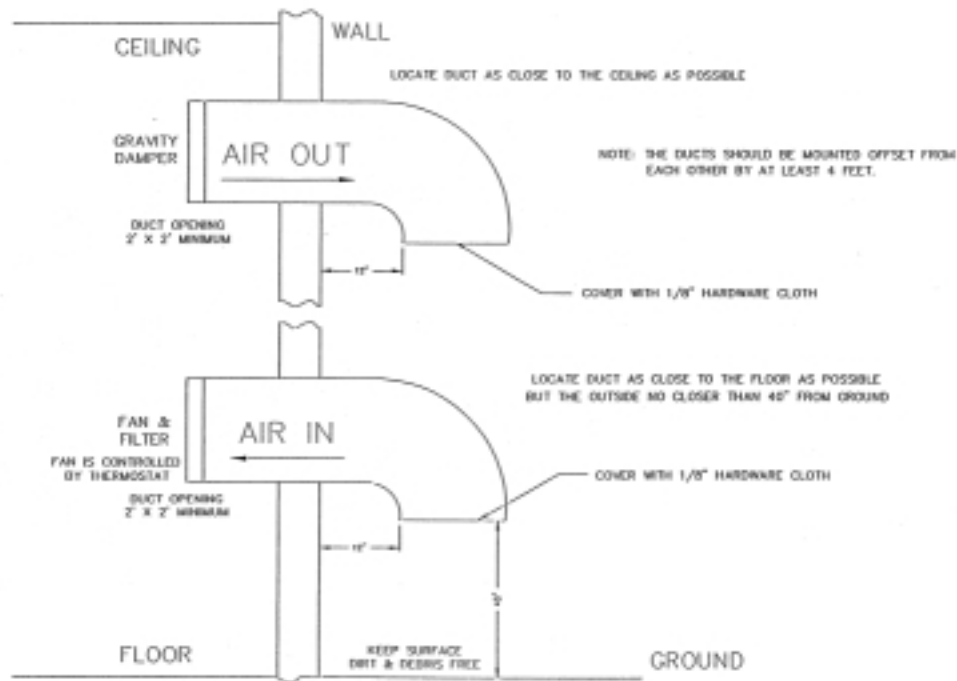

Figure 4-1. 1 kW Minimum Ventilation Configuration
- The information presented in this section is intended to serve only as a general guide and may need to be modified for unusually severe conditions. A combination of air conditioning and ventilation should not be difficult to design (see Figure 4-1). System interlocking and thermostat settings should be reviewed with Axcera.